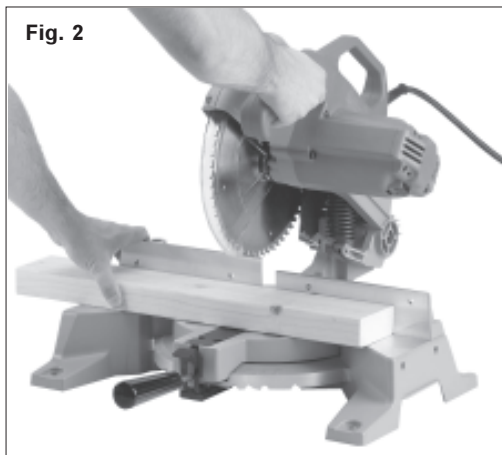

Fig. 2
### Support the Workpiece Properly (Figs. 2, 3 & 4)
1. *Use the Fence:* Align the workpiece flush against the fence as shown to provide a straight path for the saw blade (Fig. 2). This will help eliminate the tendency for the blade teeth to bind.